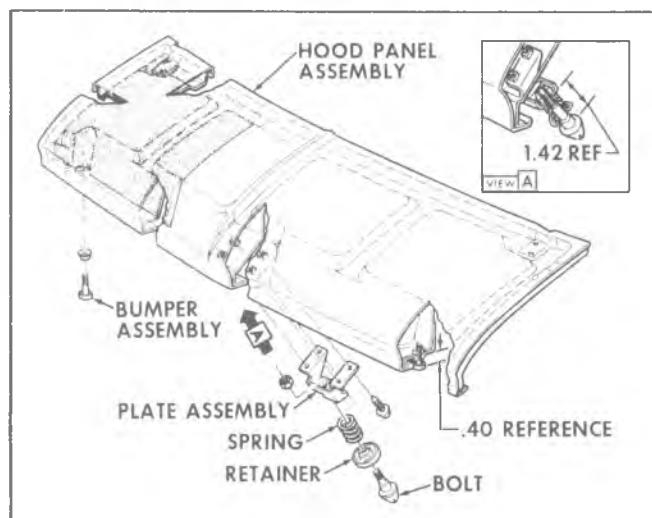

Fig. 7—Hood, Bumpers and Latch—G Series
1. Adjust lock bolt as shown in Figure 7.
**Hood Bumper (Fig. 7)**
**Hood Assembly (Fig. 7)****Removal**